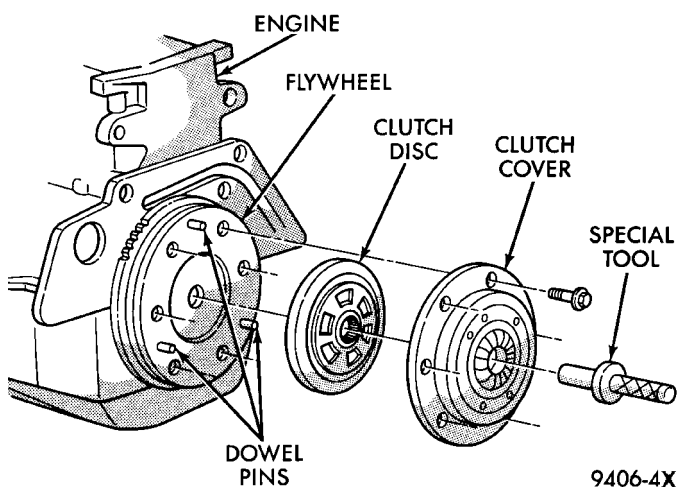

Fig. 8 Clutch Installation
(1) Mount clutch assembly on flywheel with disc centered with tool 6724, being careful to properly align dowels and the alignment marks made before removal. The flywheel side of the clutch disc is marked for proper installation. If new clutch or flywheel is installed, align orange cover balance spot as close as possible to orange flywheel balance spot. Apply pressure to the alignment tool. Center the tip of the tool into the crankshaft and the sliding cone into the clutch fingers. Tighten the clutch attaching bolts sufficiently to hold the disc in position (Fig. 8).